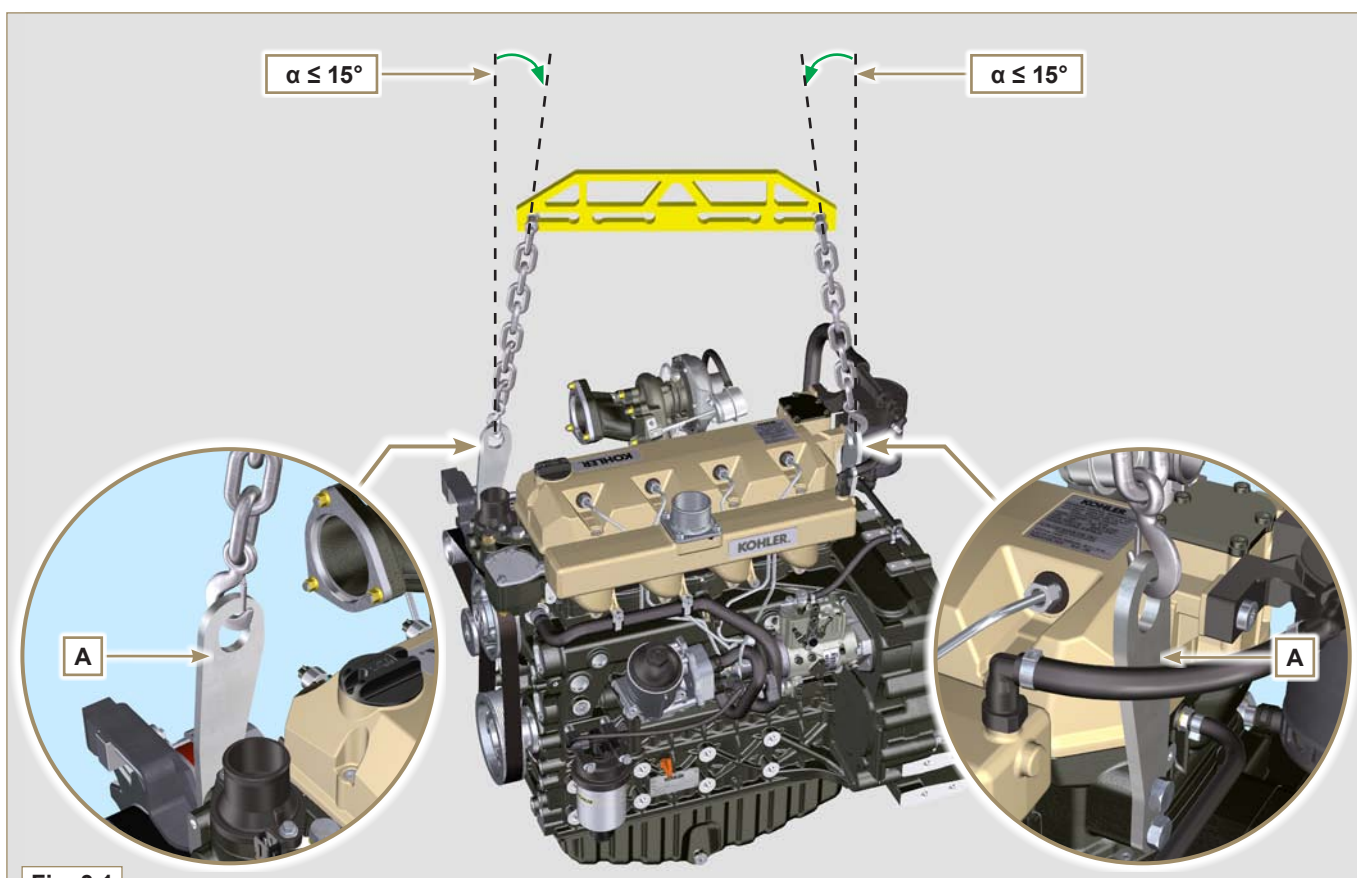

Fig. 3.1
- Only use the eyebolts **A** installed by KOHLER to move the engine (Fig. 3.1).